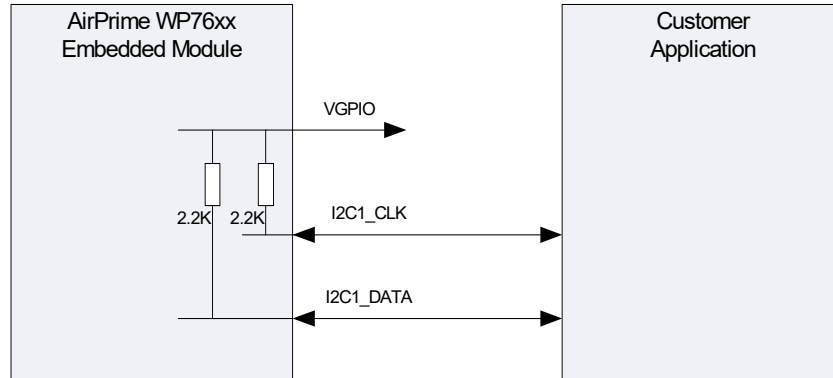

Figure 4-5: Example of I2C Bus Application
- I2C signals are implemented internally as open drain outputs (per the I2C specification) with 2.2 k $\Omega$  pull-up resistors to VGPI0 (see Figure 4-5 on page 103).